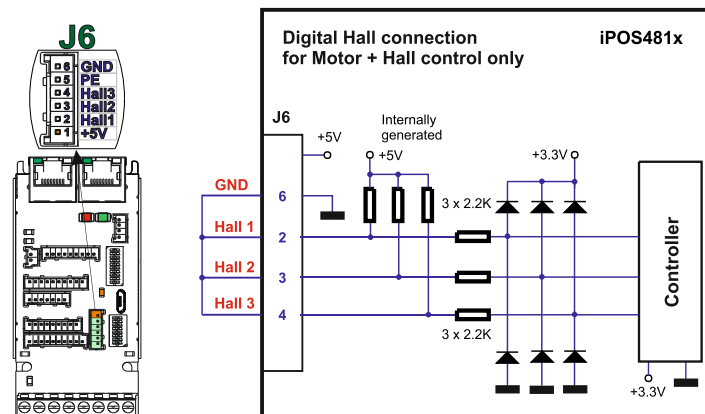

Figure 37. Temporary connection during power-on to remove the drive from Autorun mode or disable Setup
- Hardware2 – by temporary connecting all digital Hall inputs to GND, during the power-on for about 1 second, until the green LED is turned on, as shown in Figure 37. Temporary connection during power-on to remove the drive from Autorun mode or disable Setup”. This option is particularly useful when it is not possible to communicate with the drive.